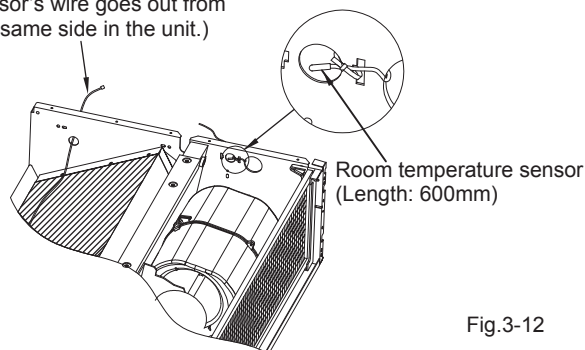

Fig.3-12
● Inside temperature controller (Fig.3-12)
- 2) Fixing install the room temperature sensor (length: 600mm) at air return orifice by cable clips and lead the sensor wire through out the wire hole. (showed as the Fig.3-12)